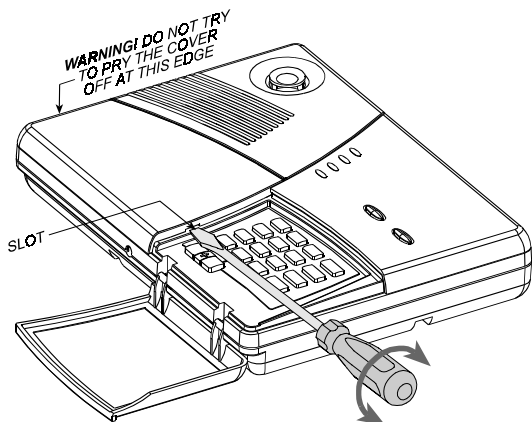

Figure 9. Prying the Cover Loose
- Insert a wide bladed screwdriver into the slot shown in Figure 9, and turn the handle slightly to force the right edge of the left-hand cover up. This should dislodge the two catches and free the right edge of the cover.